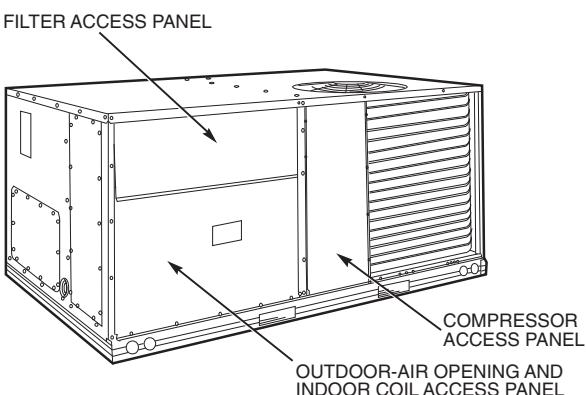

Fig. 14 — Typical Access Panel Locations (Sizes 08-09)
2. To gain access to the hood, remove the filter access panel. (See Fig. 14 and 15.)